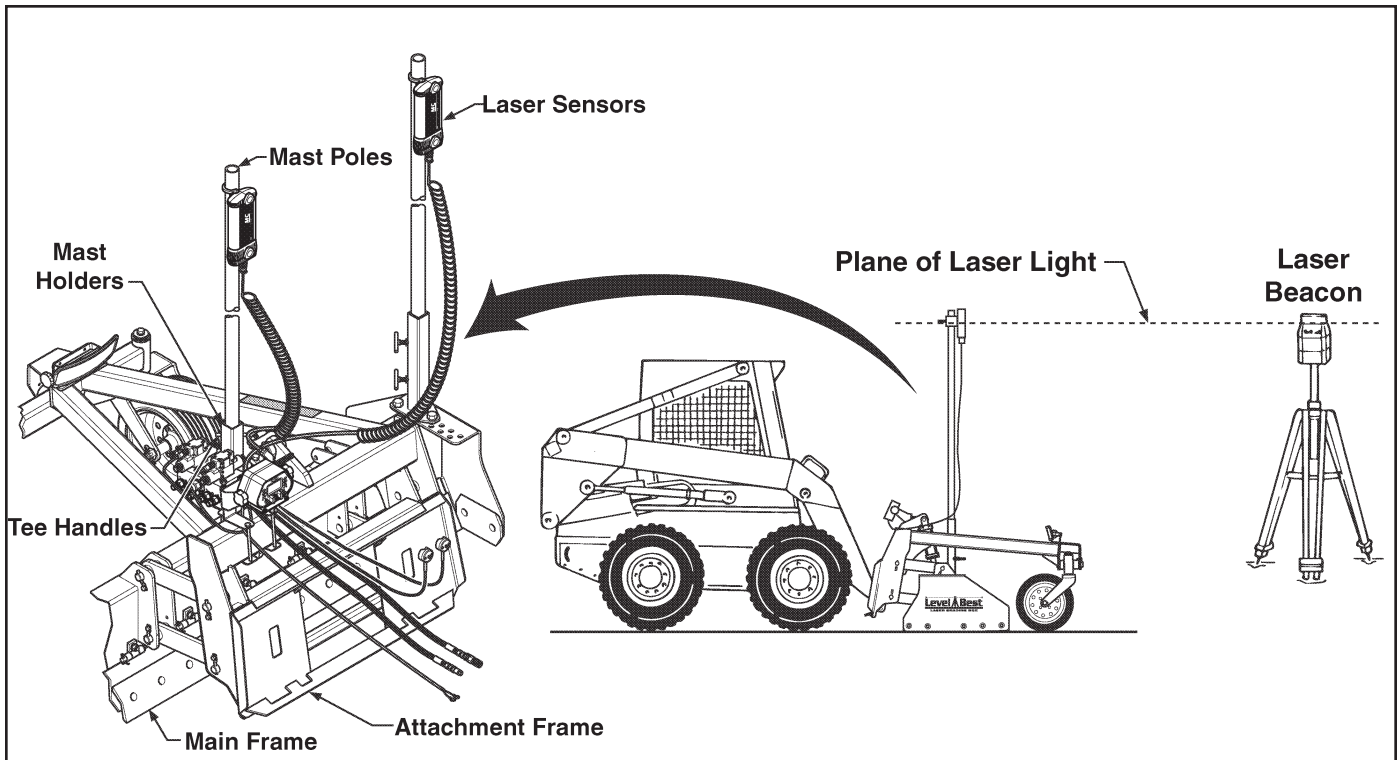

Figure 22. Components of the Automatic Control System on a Skid Steer
6. Insert the two Mast Poles in the holders, one in the center and one on the right side, until they rest at the bottom of the tube. Tighten the tee handles to secure the masts. Clamp a Laser Sensor near the top of each mast so it is higher than any local obstructions including the skid steer cab or fall protection devices. (Refer to Figure 22).